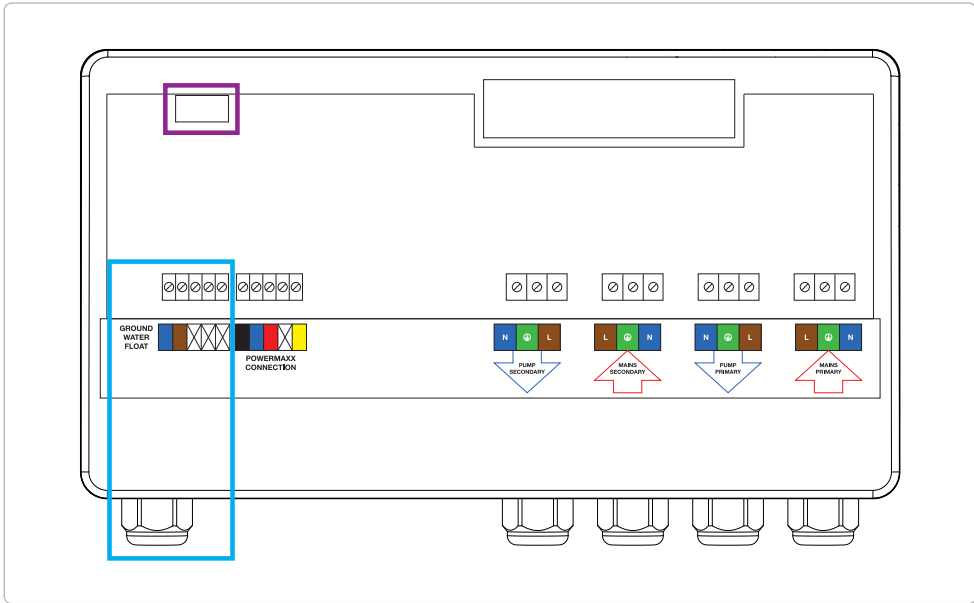

Figure 6. Wiring a finger float switch
4. Connect the blue and brown cables from the float switch cable to the terminal strip (figure 6).
See highlighted area in **PURPLE** on figure 6 (page 10) for terminal block location.